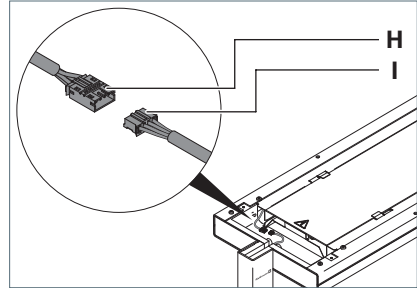

Fig. 4: Connecting the light head, Part 1
- Connect the plug **I** to the socket **H** at the light head, see Fig. 4.